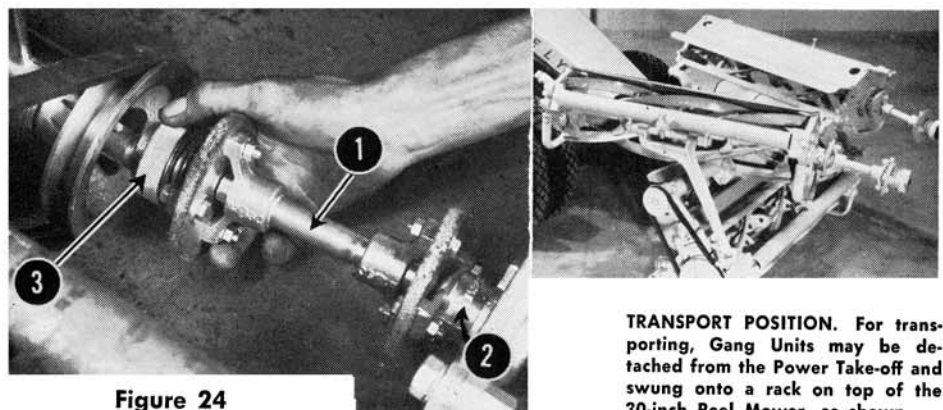

Figure 24
Finally, attach the Universal Assembly, 1 in Figure 24, as follows:
1. Place the Wing Spider, 2 in Figure 24, in position against the Reel Bearing. Tighten the set screws.
2. Grasp the Locking Ring, 3 in Figure 24 (pulling back against its spring), and place it against the Lower Take-off Shaft, lining up the Locking Ring balls with the holes in the Shaft.